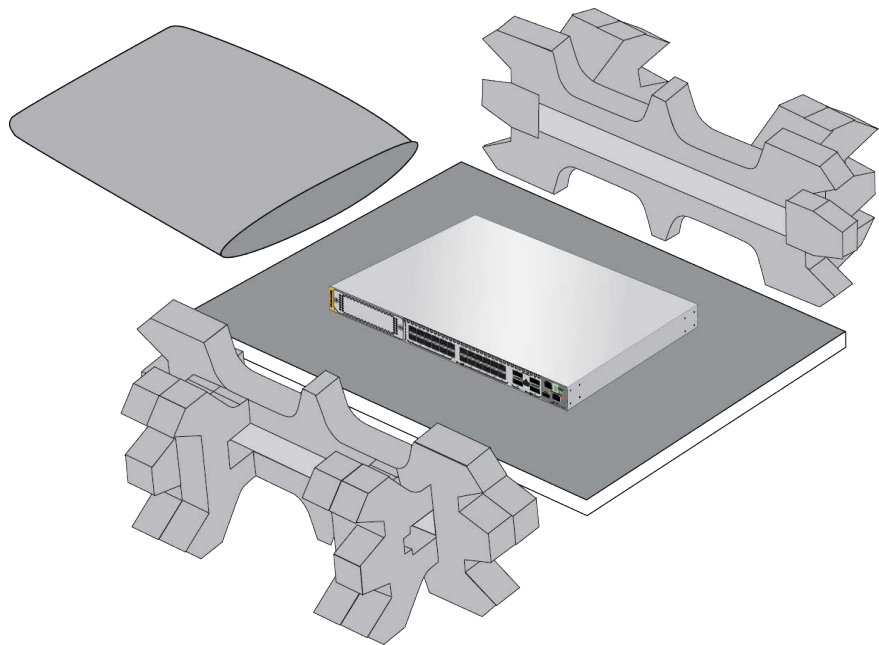

Figure 52. Removing the Switch from the Shipping End-caps and Protective Bag
4. Remove the switch from the shipping end-caps and protective bag. Refer to Figure 52.